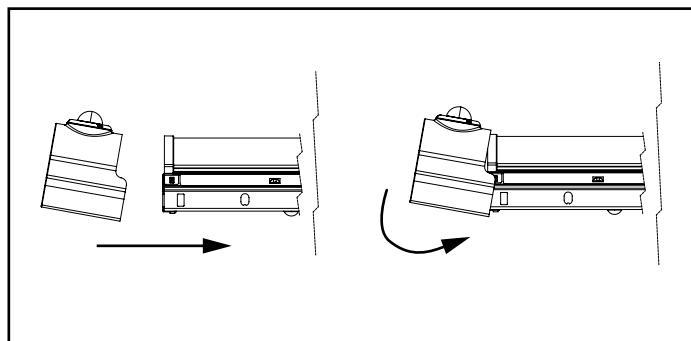

Figure 3
5. Push sensor bracket onto channel and lens until it snaps into place. Fig 3.